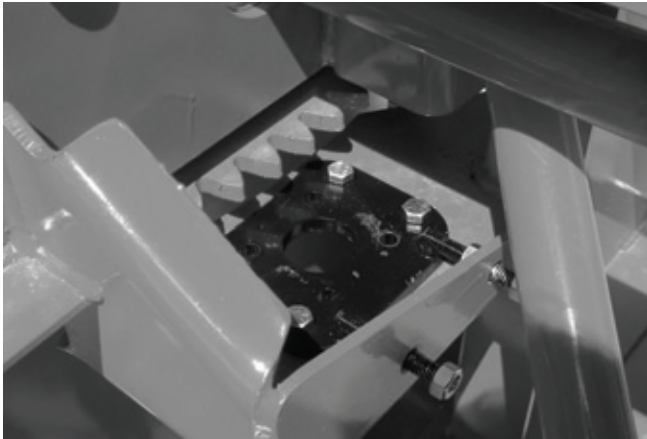

Figure 28
- 2) Install the mounting plate tightening the bolts lightly (Fig. 28).